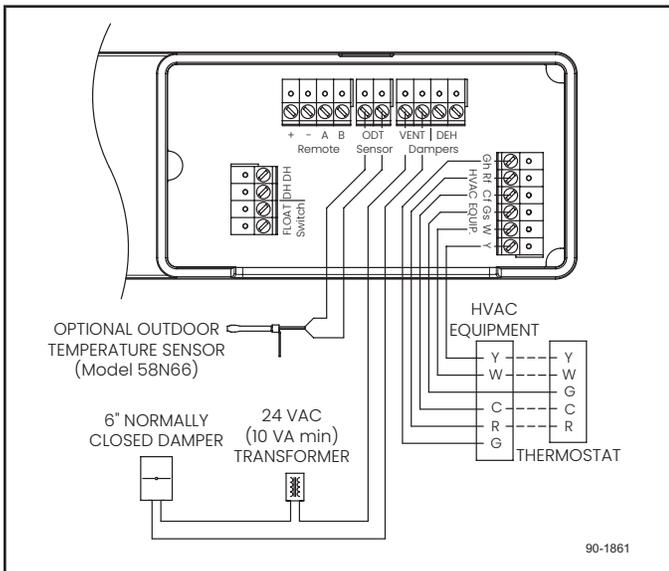

Figure 28. Ventilation Wiring
When wired as shown in **Figure 28**, the ventilation damper will open whenever there is an HVAC heating (W), cooling (Y) or fan (Gs) call, allowing fresh air to be brought in when the HVAC blower is running (see **Ventilation with an External Control** section below for exceptions). The ventilation damper will also open if the dehumidifier is operating. **VENTILATING** will show on the dehumidifier control when the dehumidifier is actively ventilating. When the HVAC call ends, the dehumidifier stops, or after the set amount of ventilation time has been met, the ventilation damper will be closed.